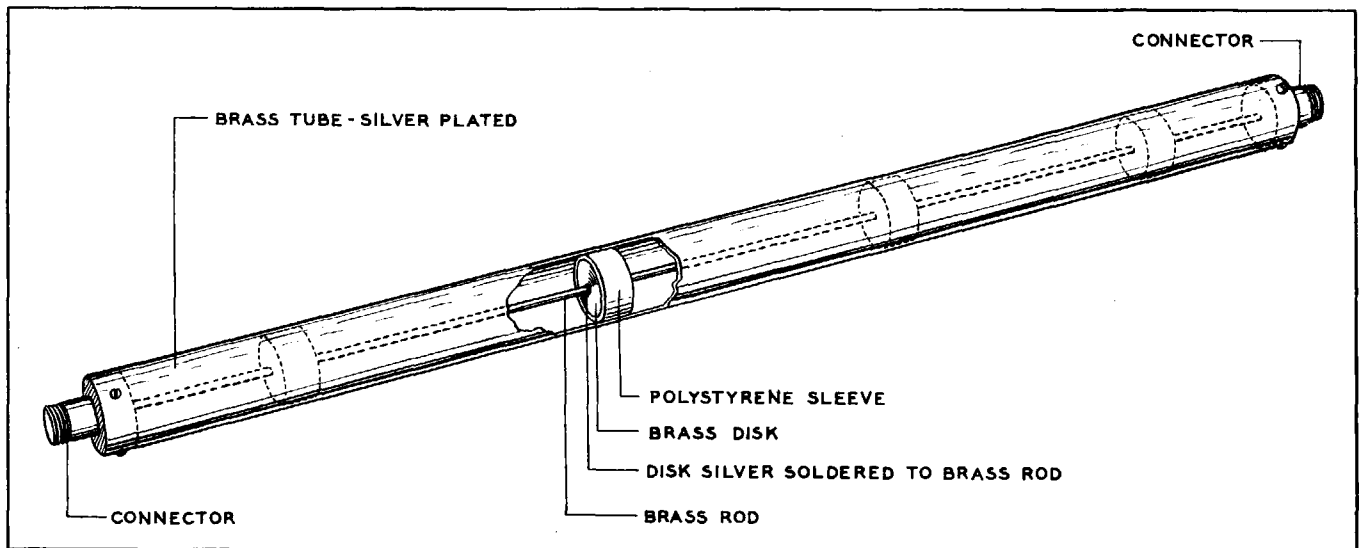

Figure 4-7. Antenna Filter F-3/APR-2—Cutaway View
a. The antenna filter, illustrated in figure 4-7, is connected in series with the low-frequency antenna coaxial cable.